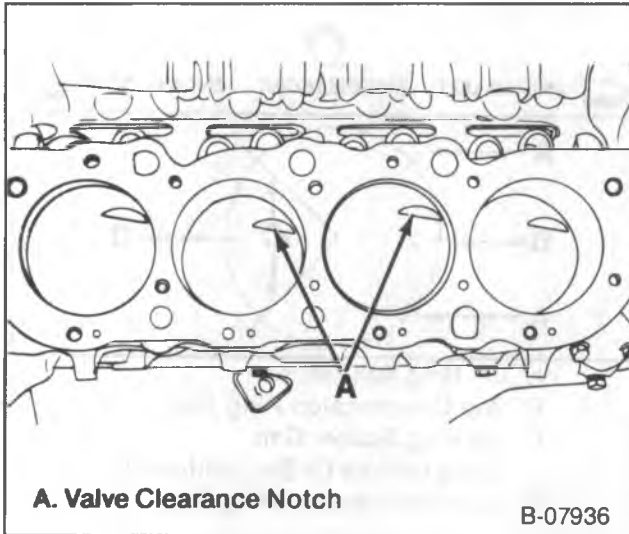

Figure 65—Piston Installed (7.4L Engines)
- On 7.4 L engines, the valve clearance notches must face the top of the block (figure 65).